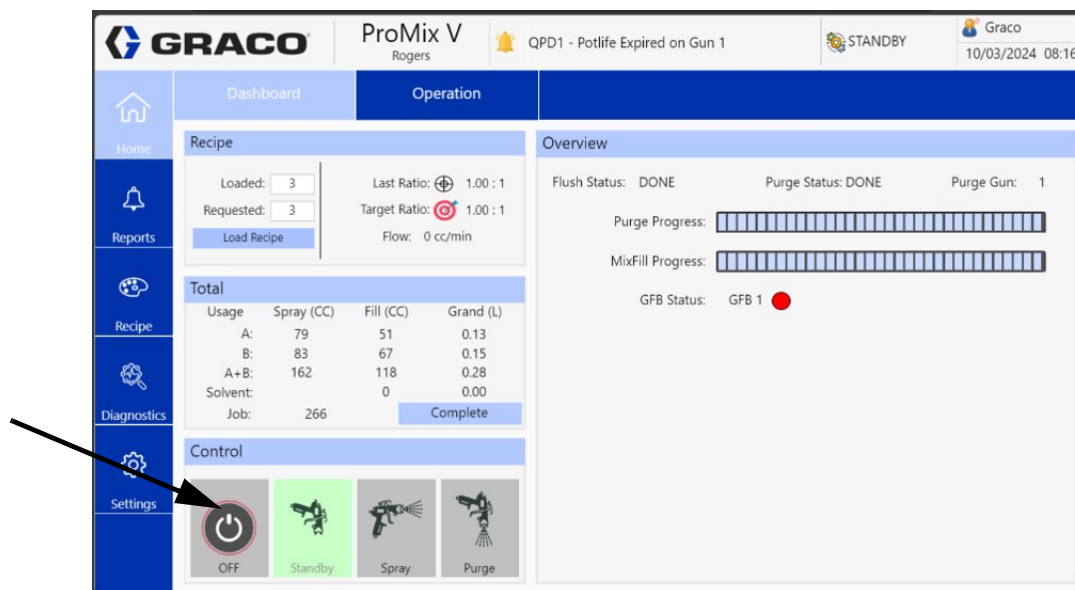

FIG. 2
- b. On the Home screen, make sure the control is OFF, as shown in FIG. 2.